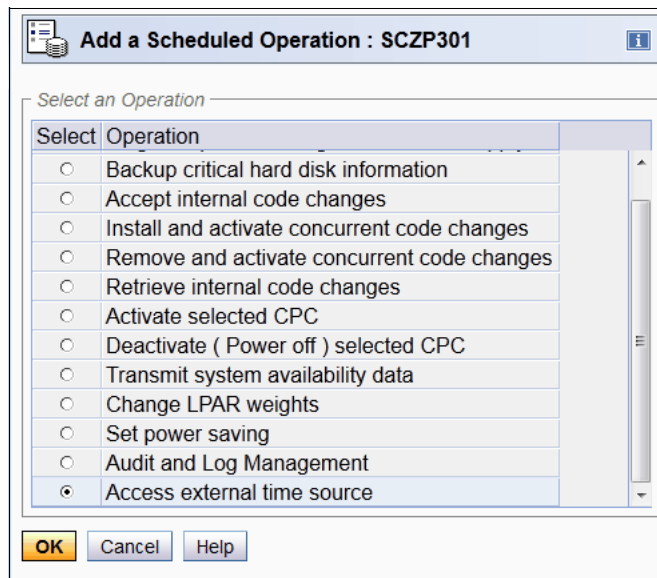

Figure 6-120 Add a Scheduled Operation
2. Select **Options** → **New** to create a new entry. The Add a Scheduled Operation window displays (Figure 6-120), allowing the selection of the type of new scheduled operation to be created. Select the **Access external time source** radio button and click **OK**.